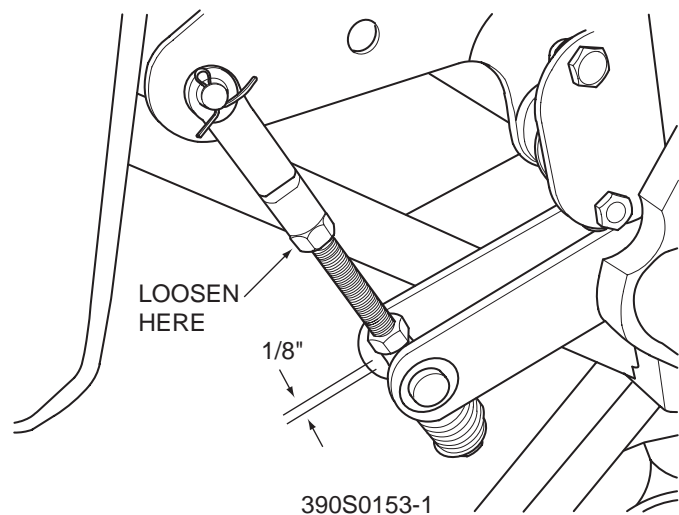

Figure 6-2. Brake Rod Adjustment
4. With the brake in the engaged position, check the distance between the lower nut on the brake actuator rod and the brake actuator lever on the LH side of the machine. The distance should be 1/8". See Figure 6-2.
5. If the distance is not at the specified measurement, loosen the jam nut at the clevis on the top of the brake actuator rod. See Figure 6-2.
6. Turn the bolt at the bottom of the brake actuator lever until the 1/8" measurement is achieved and tighten the jam nut at the clevis on the brake actuator rod. See Figure 6-2.